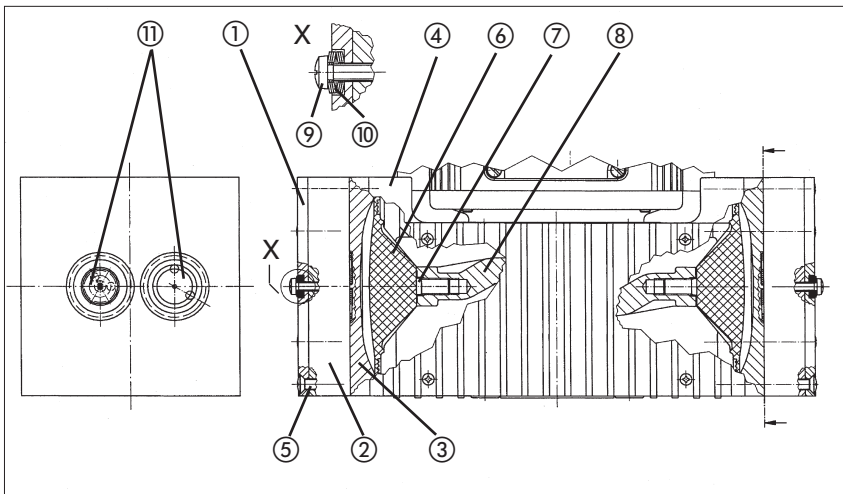

Fig. 2: Cross section of pump heads (symbolic)
- ▶ The position numbers in the following text refer to fig. 2.
► The concave side of the first three disc springs must point away from the screw head, the next three towards it (see fig. 2, detail X).
- ⑤ Gently tighten the screws ⑤, evenly and diagonally.
- ⑥ Turn the fan to check that the pump rotates freely.
- ⑦ Now tighten screws ⑤ hand-tight.
- ⑧ Tighten each of the screws ⑨ a half-turn more.